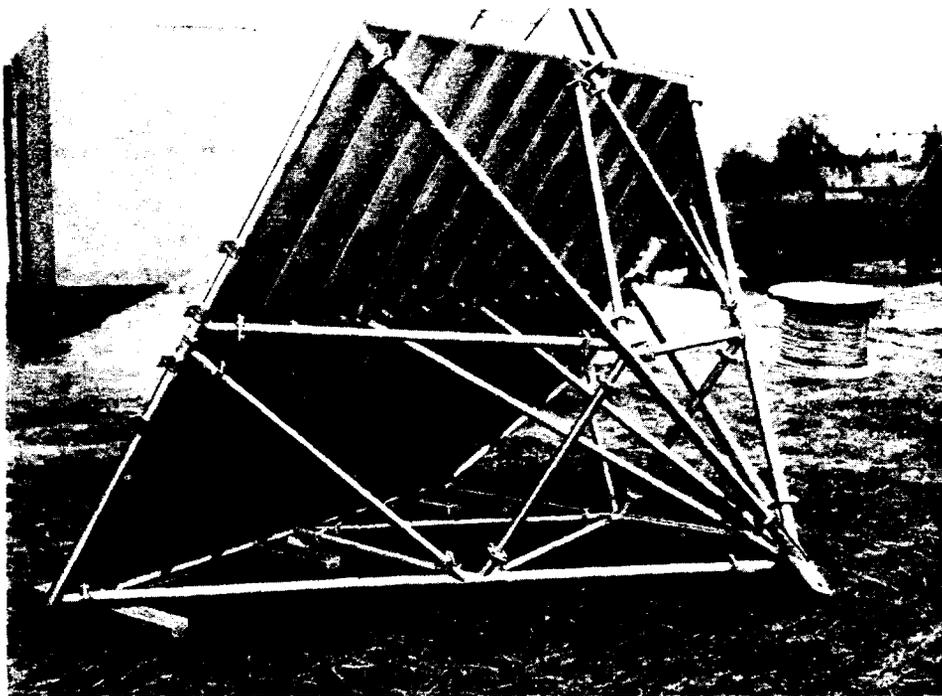

Fig. 3 — KS-16320 Passive Reflector Arranged for Inspection of Surface
4.01 Immediately upon completion of assembly, the reflecting surface should be inspected for flatness. Turn the reflector over carefully so that it is supported by one 12-foot edge and by the bracing structure, as shown in Fig. 3